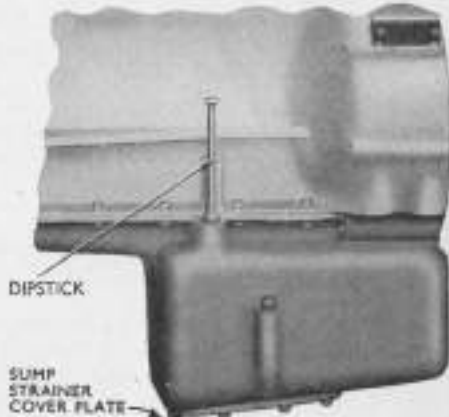

Fig. 11. Engine Oil Dipstick.
| Engine Sump | Check level of oil in sump and top up if necessary, with 30 H.D. to top mark on dipstick (Fig. 11). Do not fill above the level indicated. |
Engine Sump and Strainer. Drain by removing the two drain plugs. Under supervision, remove the sump strainer and cover plate (*see Fig 11*), by unscrewing the six nuts securing the cover plate to the rear end of the bottom of the sump. The sump strainer will be removed with the cover plate—do not separate. Clean the strainer with paraffin, then refit to sump, exercising care that the oil suction pipe enters the hole in the strainer. Refit the two drain plugs and secure with locking wire. Refill with oil to top mark on dipstick.
- (A) **CHECK LEVEL OF OIL IN SUMP** and refill, if necessary, to the top mark on dipstick (*Lubrication Chart Reference No. 1*). This is in addition to daily replenishment and periodical oil change ; see page 22. Use oil 30 H.D. (see Figs. 11 and 13).
- (B) **CHECK READING ON OIL PRESSURE GAUGE** (with engine running).